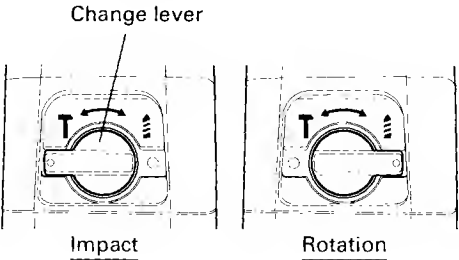

Fig. 7
9. **IMPACT to ROTATION changeover (Fig. 7)**
The change lever may not rotate smoothly when changing from hammer drill mode to drill mode (Fig. 7).